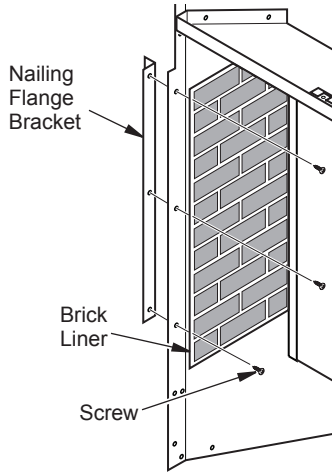

Figure 4 - Attaching Nailing Flange Brackets
- Locate 3 prepunched clearance holes in each side of fireplace. Press screws through brick liner, then attach nailing flange brackets to each side of fireplace (see Figure 4).